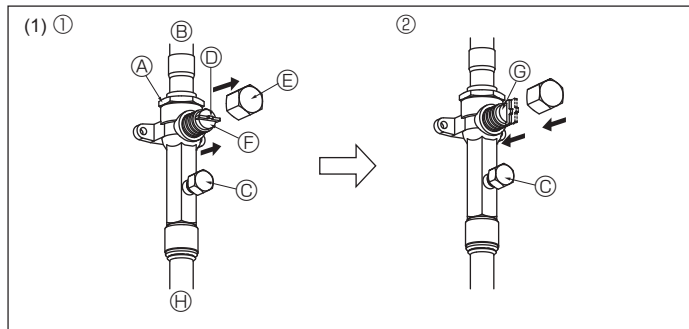
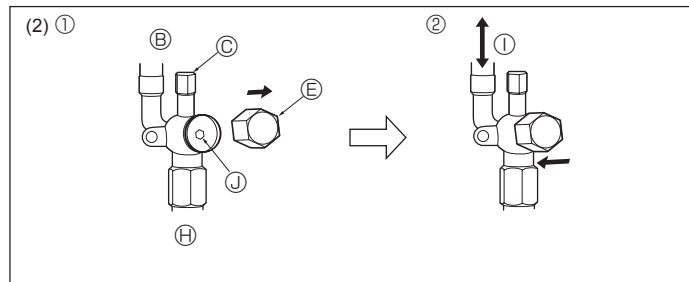

Fig. 4-10
Fig. 4-11
(1) Gas side (Fig. 4-10)
① Remove the cap, pull the handle toward you and rotate 1/4 turn in a counterclockwise direction to open.
② Make sure that the stop valve is open completely, push in the handle and rotate the cap back to its original position.
(2) Liquid side (Fig. 4-11)
① Remove the cap and turn the valve rod counterclockwise as far as it will go with the use of a 4 mm hexagonal wrench. Stop turning when it hits the stopper. (ø6.35: Approximately 4.5 revolutions) (ø9.52: Approximately 10 revolutions)